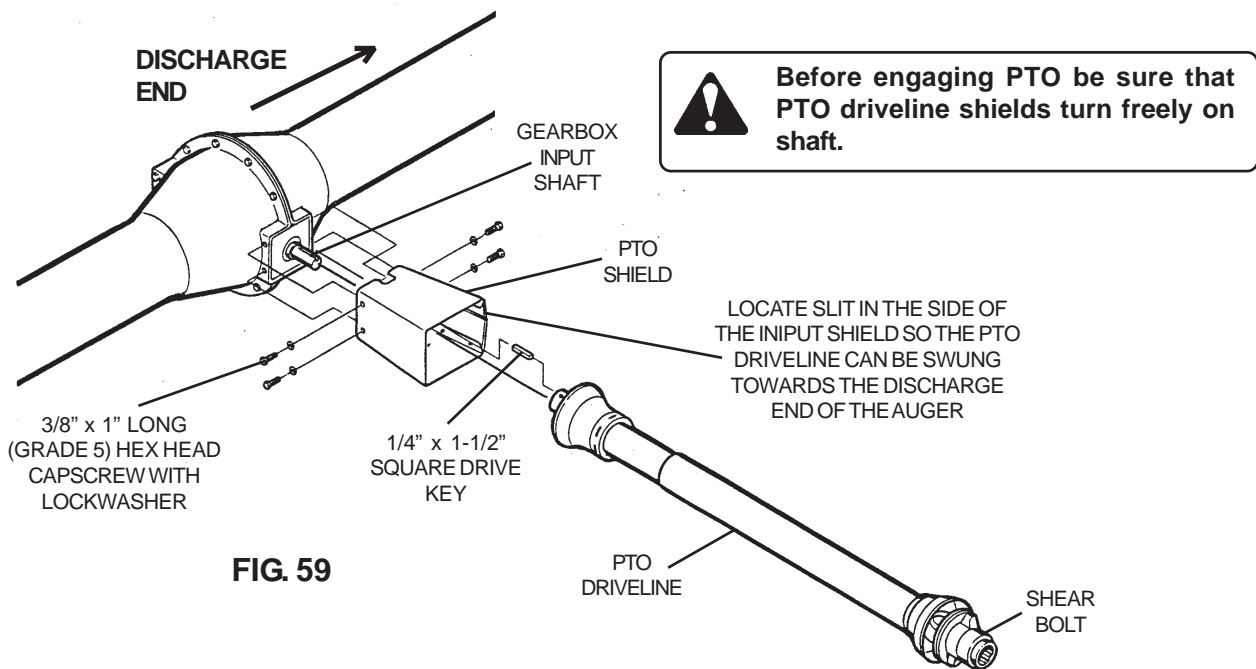
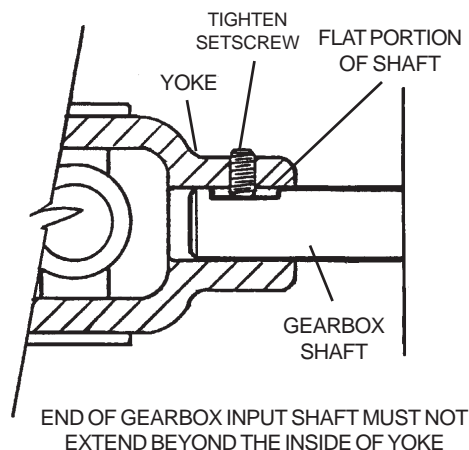

FIG. 59
FIG. 60
1. Attach PTO driveline to gearbox input shaft by using 1/4" x 1-1/2" long square drive key. See Fig. 59. Place setscrews properly, then tighten. See Fig. 60.
IMPORTANT: For setscrew to be properly engaged on the gearbox input shaft, the gearbox input shaft **MUST** be slid into the PTO driveline yoke until the setscrew will sit on flat portion of shaft. (See Fig. 60.) Do not extend the gearbox input shaft beyond the inside end of the yoke.
3. Slide input shield over the PTO driveline and fasten to the drive housing using two 3/8" x 1" long (grade 5) hex head capscrews with lockwashers. See Fig. 59 on page 44.
7. Install the input shield to cover the PTO driveline to gearbox shaft connection. See Fig. 59 on page 44.